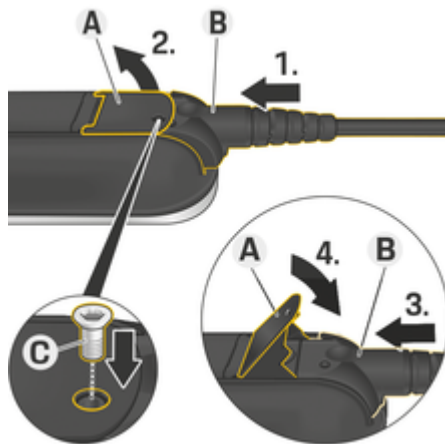

Fig. 19 Connecting cables and securing plugs
- ✓ Lever **A** (Fig. 19) is closed.
1. Insert plug **B** (Fig. 19) into the control unit until you first feel resistance.
5. Secure plug **B** to the control unit with screw **C** (Fig. 19).